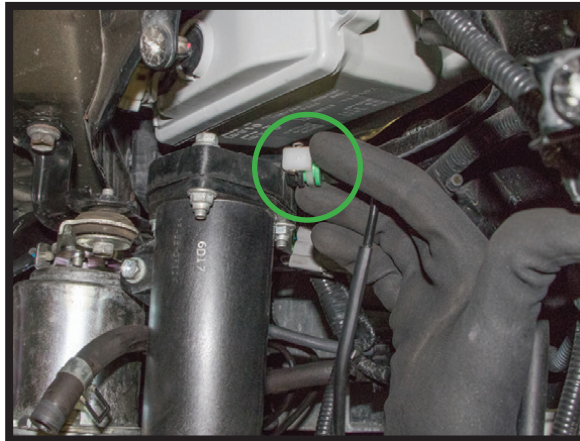

FIGURE 3
5. DISCONNECT THE AIR HOSE FROM THE DRYER. (FIGURE 3)